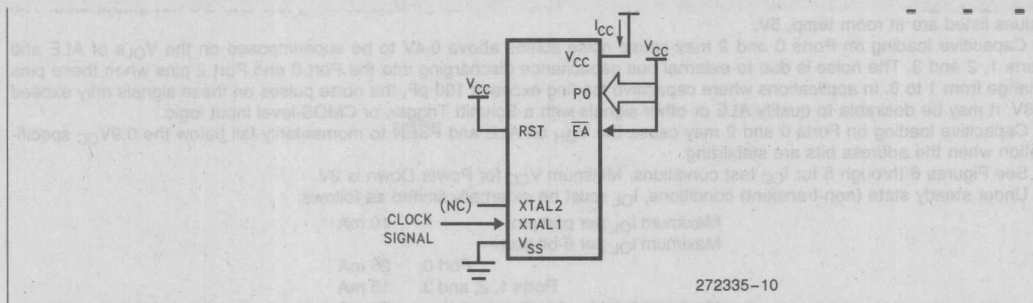

Figure 6. I_{CC} Test Condition, Active Mode. All other pins are disconnected.
4. See Figures 6 through 8 for I_{CC} test conditions. Minimum V_{CC} for Power Down is 2V.